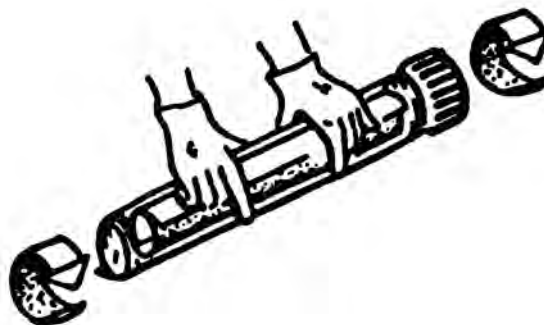

Figure 4-3. Rolling Direction of Bottle
5. Place 0.34-0.51 fl. oz. (10-15ml) SSPE (SSC) into a hybridisation bottle and then insert the roll in such a way that the leading edge (inside the roll) and the trailing edge are positioned relative to each other as shown in Figure 4-3.